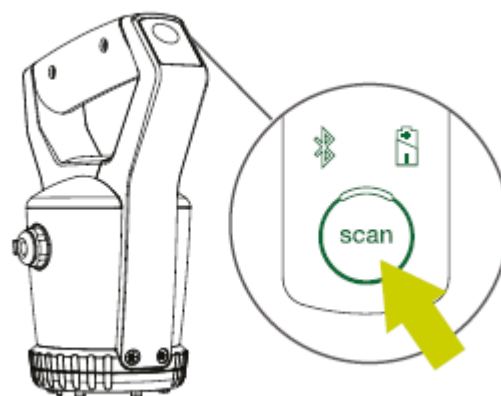

Figure 4
Press the circular button on the scanner for one second (Figure 4). This action will trigger the start-up sequence, indicated by a steady green battery light (if fully charged), alongside two flashing red lights for Bluetooth connectivity and measurement (1x per second). Once these lights are active, the scanner is ready for connection to your phone via the NutriOpt On-site Adviser application.
- Start the scanning process by pressing the 'Scan' button (Figure 4) on the device for one second, until you hear a beep.